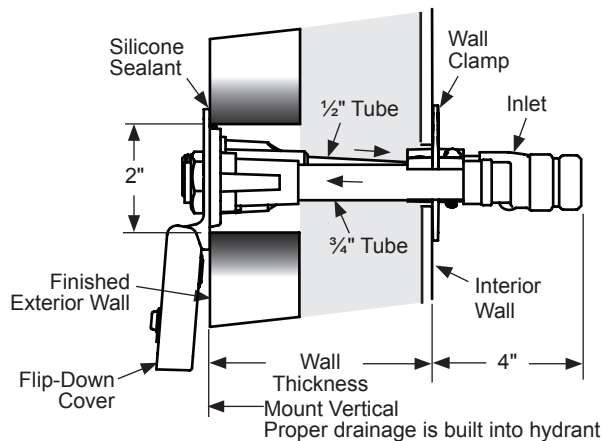

Fig. 1
2. Cut a 2" X 3 7/8" opening through the wall in the desired location. Fig. 1
3. Hydrant Inlet must be in a warm interior area. Fig. 1
5. Apply silicone sealant or equivalent behind and around head flange to seal and help support hydrant Fig. 1 *Make sure silicone does not interfere with door operation.*
7. Note: Proper drainage is built into hydrant: Fig. 1 *1/2" tube must slope slightly down toward inlet. 3/4" tube must be level.*
8. Install adjustable Wall Clamp over water tubes and slide snug to interior wall. Fig. 1